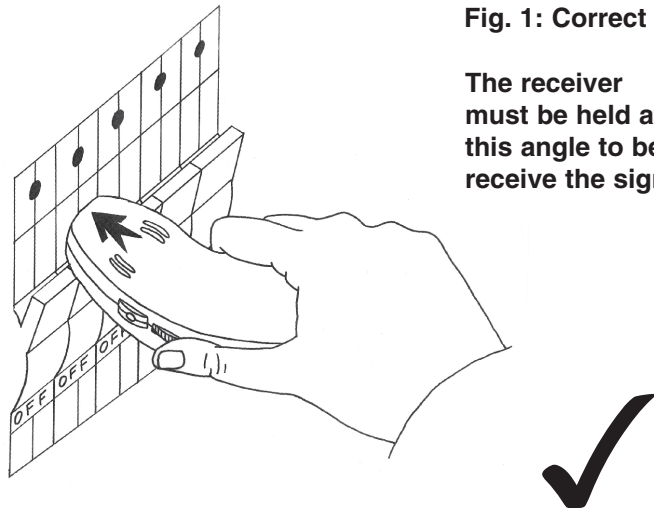

Fig. 1: Correct
3. Go to fuse box (consumer unit) and place flat surface of receiver at a right angle to and directly on the fuse or circuit breaker (Fig. 1).